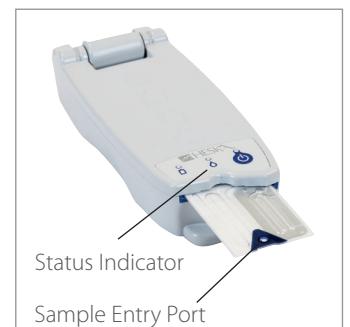

Figure 2
7. Insert Test Card into Reader with sample entry port facing up and allow ~165 seconds for calibration. (Figure 2)
NOTE: Insert Test Card swiftly and smoothly, immediately after removing from package. Reader will beep and test status indicator will turn green. (Figure 2) If test status indicator turns red, check host for instruction message and remove Test Card completely. Test Card may be reinserted.